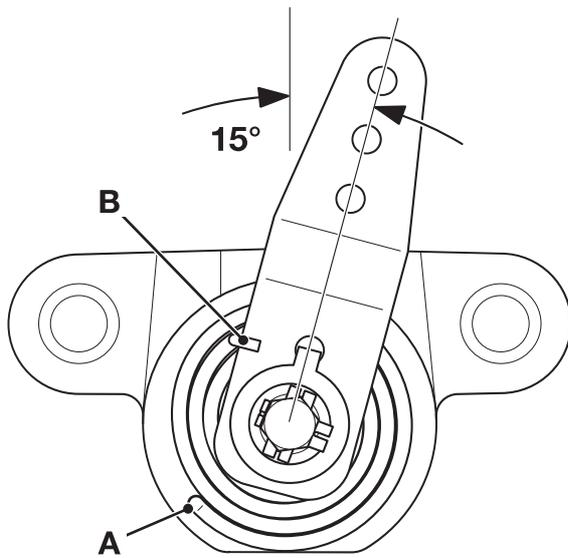

Fig 23.
- 8 Fit lever **22-6**. Align the lever to the mark made during dismantling. ⇒ Fig 23. \(□ G-24\).